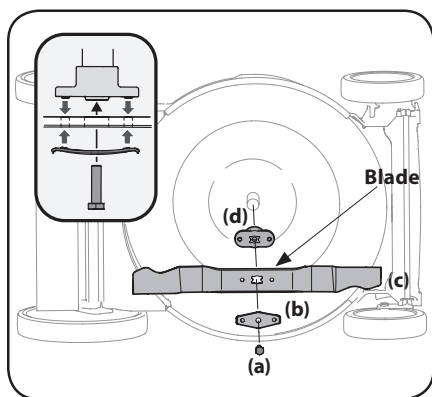

Figure 4-3
3. Remove bolt (a) and blade bell support (b) which hold the blade and the blade adapter to the engine crankshaft. See Figure 4-3.
4. Remove blade (c) and adapter (d) from the crankshaft. See Figure 4-3.
6. Lubricate the engine crankshaft and the inner surface of the blade adapter with light oil. Slide the blade adapter (d) onto the engine crankshaft. Place the blade on the adapter such that the side of the blade marked "Grass Side" (or with part number) faces the ground when the mower is in the operating position. Make sure that the blade is aligned and seated on the blade adapter flanges. See Figure 4-3 inset.